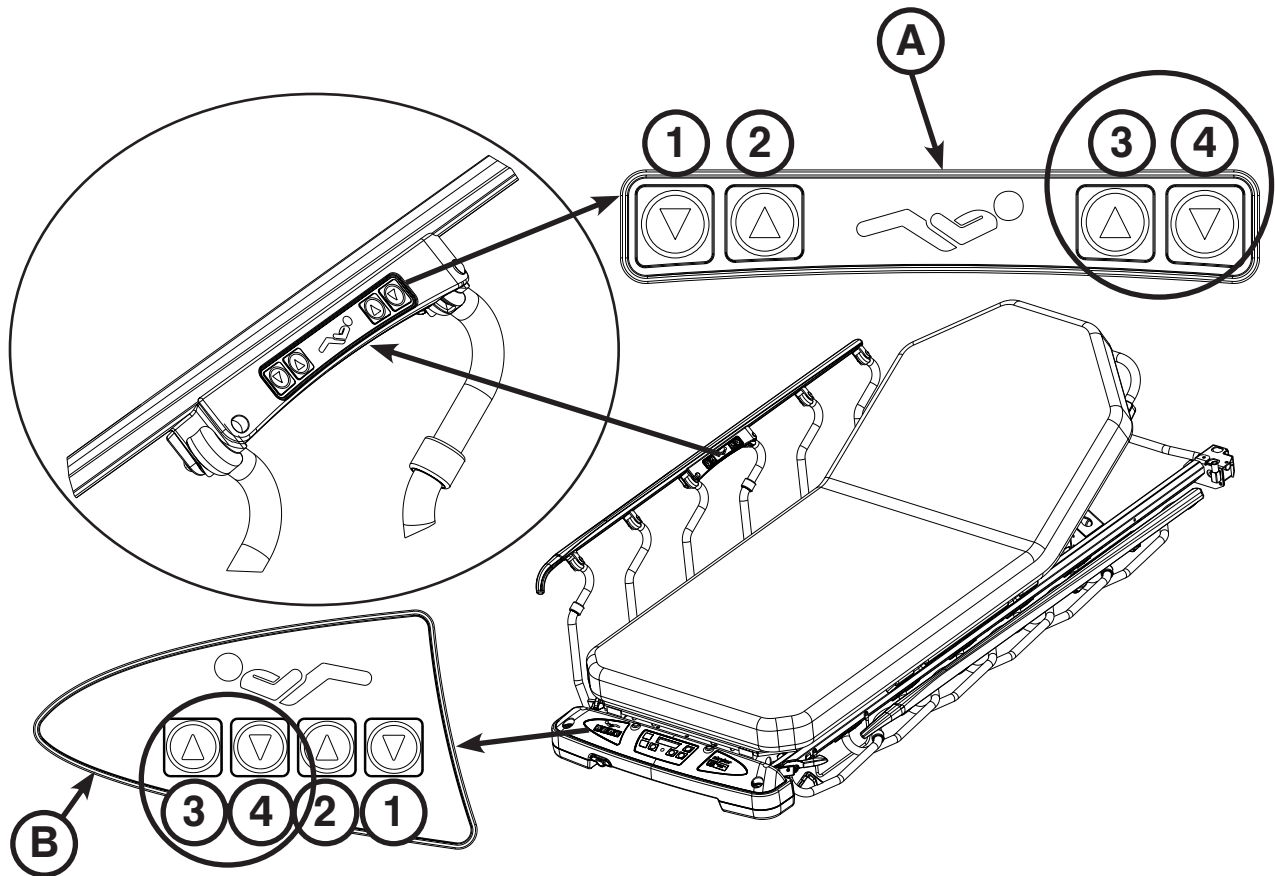

Figure 11: Fowler - Electric Option
To raise the fowler, press the UP (3) button on the patient siderail controls (A) or foot end nursing controls (B) until the fowler has reached the desired angle (between 0 and 70 degrees) as shown in Figure 11.
To lower the fowler, press the DOWN (4) button until the fowler has reached the desired angle (between 70 and 0 degrees) as shown in Figure 11.